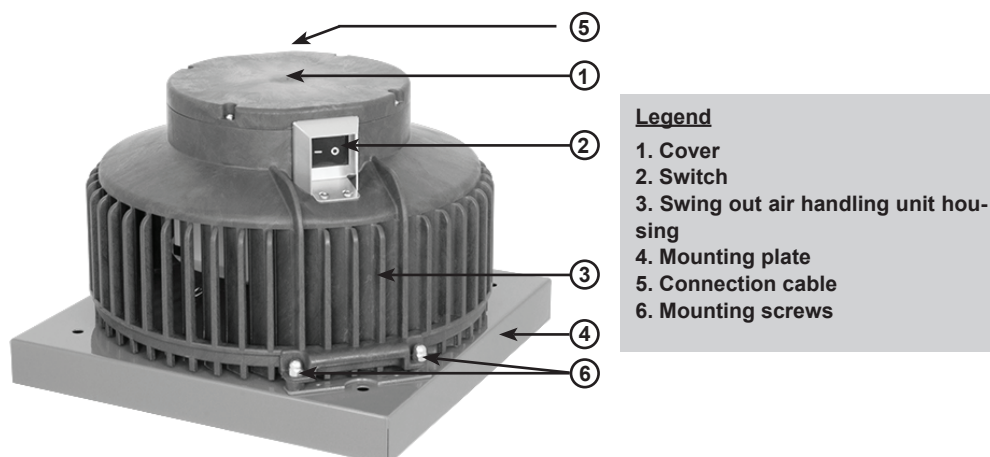

Fig. 1:
- After checking and connecting to the electrical grid, put the switch (2) (see Fig. 1) in position „I“. The fan is starting.
After removing the cover (1) (see Fig. 1), you have free access to the pressure regulation circuit board.